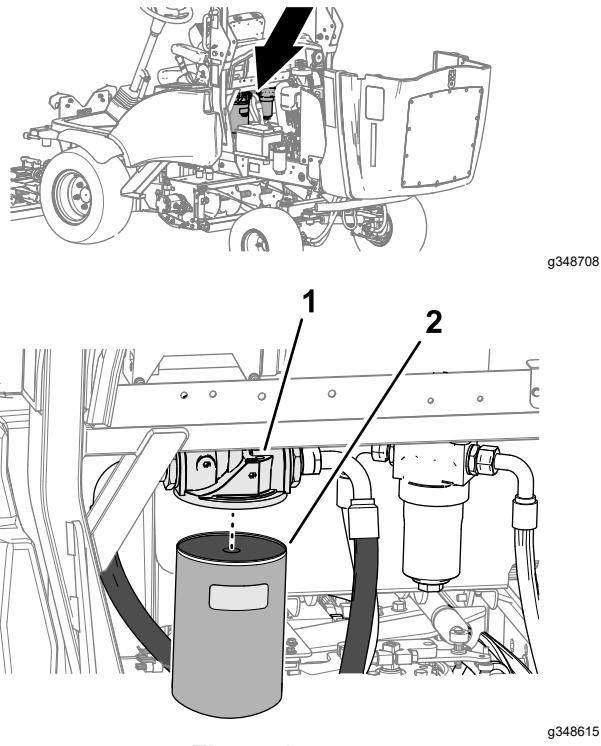

Figure 85
3. At the left side of the machine, clean the area around the filter head and place a drain pan under the filter (Figure 85).
4. Remove the return filter (Figure 85).
6. Assemble the filter to the filter head, and tighten the filter by hand until the gasket contacts the mounting surface, then rotate it an additional 1/2 turn (Figure 85).